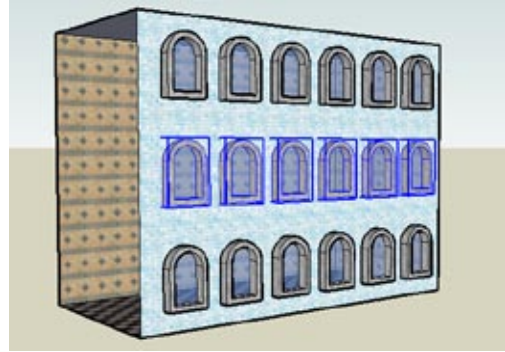

Figure 1-13
13. Enter $2x$ (or whatever number works for you) and adjust the spacing to fill the wall with windows (Figure 1-13).